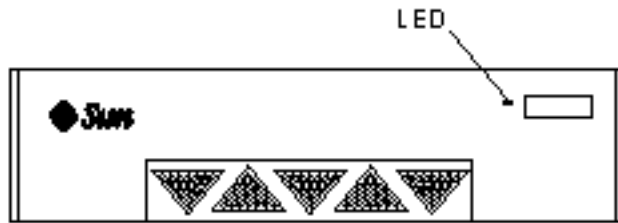

Figure 1-1 Front View of the System
- Figure 1-1 shows the front view of the system.